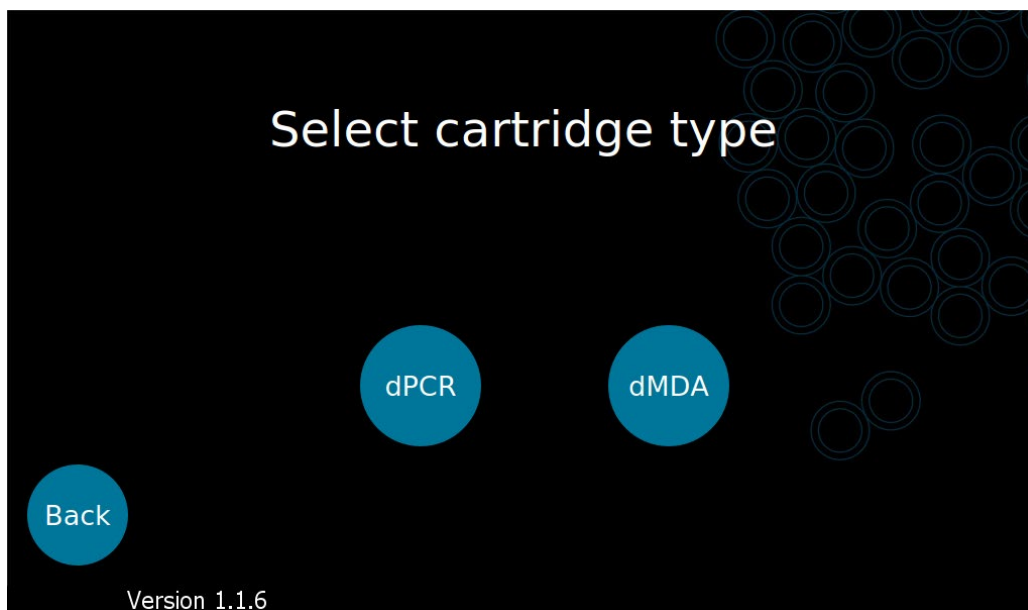

Fig. 5.9. The Xdrop™ instrument “Select cartridge type” screen. Select dMDA cartridge.
5. The droplet generator instrument can operate with either dPCR or dMDA cartridges. Use the dMDA cartridge with the “dMDA” option on the touch screen (Fig. 5.9).